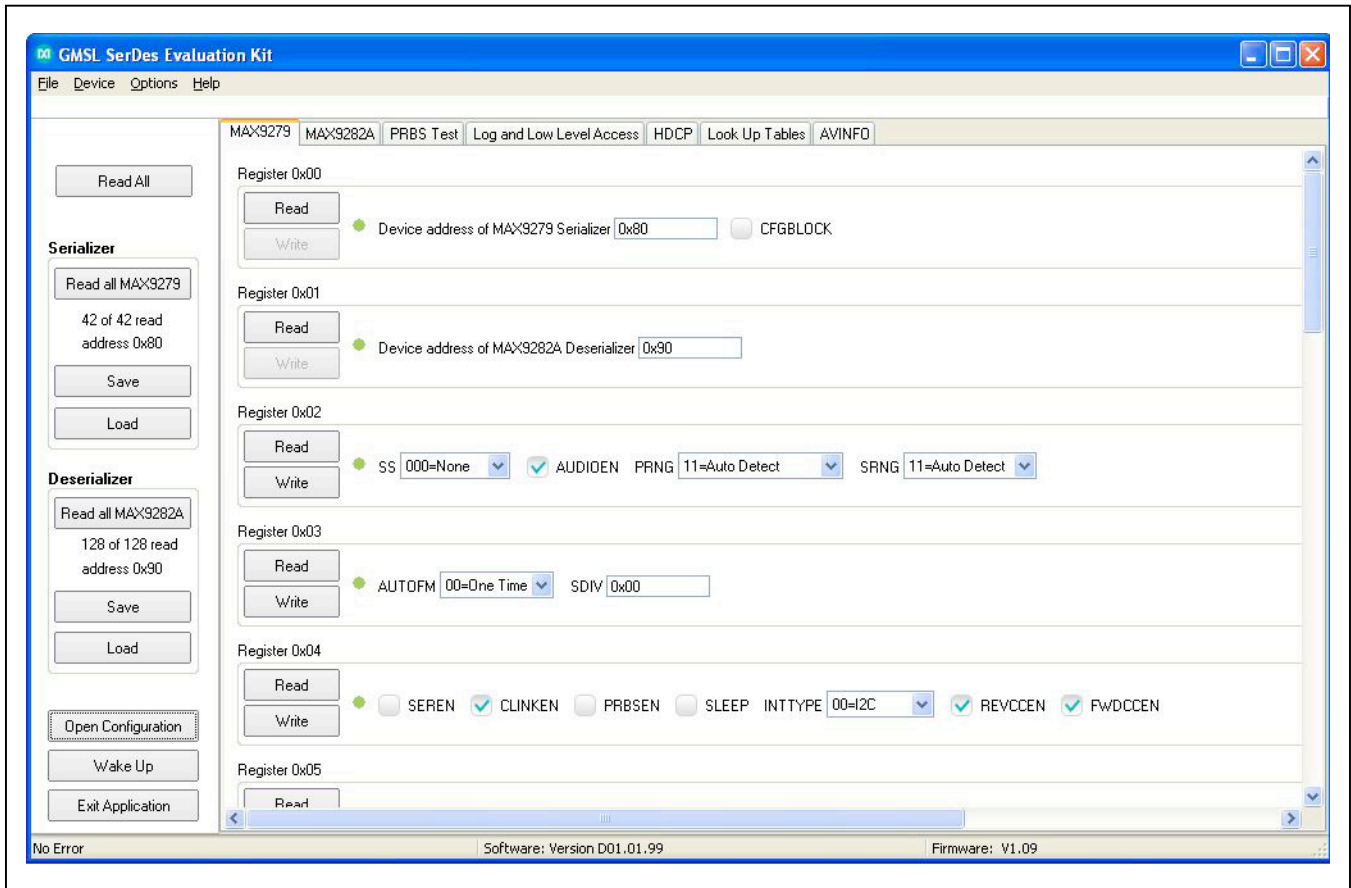

Figure 4. MAXSerDesEV-D Evaluation Kit Software (MAX9279 Tab)
- 13) Press the **Connect** button to move on to the **Evaluation Kit** window (Figure 4).
The **Evaluation Kit** window shown in Figure 4 provides access to all internal functions of the DUTs by means of reading and writing registers through different tabs to allow the user to evaluate various functions of the SerDes.
The **MAX9279** tab (Figure 4) lists the serializer's bitmaps. The **Read** and **Write** buttons in each register group box allow read/write access for each bit or group of bits that specify a function or condition, as defined in the serializer